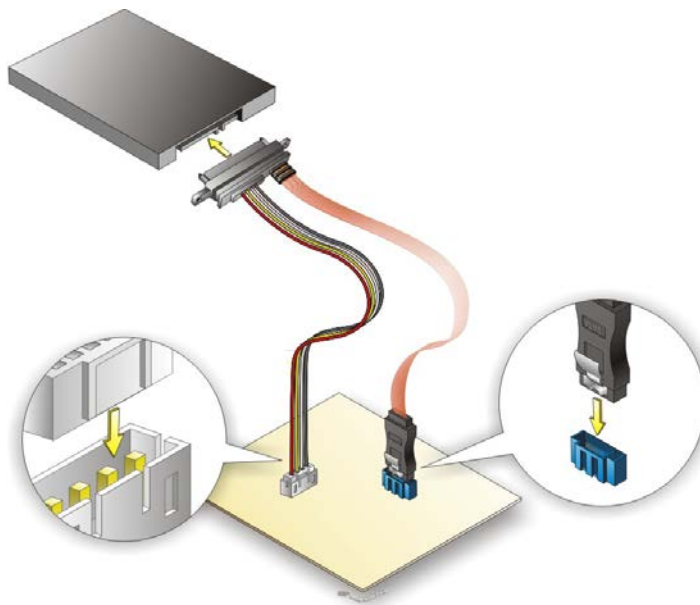

Figure 4-12: SATA Drive Cable Connection
Step 2: Insert the cable connector. Insert the cable connector into the on-board SATA drive connector and the SATA power connector. See **Figure 4-12**.
Step 3: Connect the cable to the SATA disk. Connect the connector on the other end of the cable to the connector at the back of the SATA drive. See **Figure 4-12**.